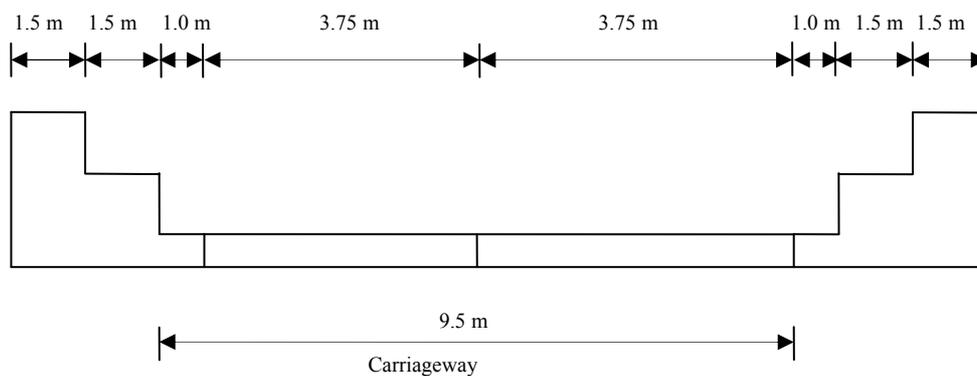

Figure 2: Cross-Section of Carriageway
3. (a) A solid slab highway bridge, with cross-section as shown in Figure 2, has a right (total width) of 12m, a structural depth of 600mm and skew angle of 30°. The specified highway loading is HA and 45 units of HB. The nominal superimposed dead load is equivalent to a uniformly distributed load of 2.5 kN/m², and the nominal parapet loading is 3.5 kN/m along each free edge. Calculate the moment of resistance for bottom reinforcement placed parallel to the slab edges by yield line theory for load combination 1. Neglect the contribution of top reinforcement towards strength. Use the following data below.